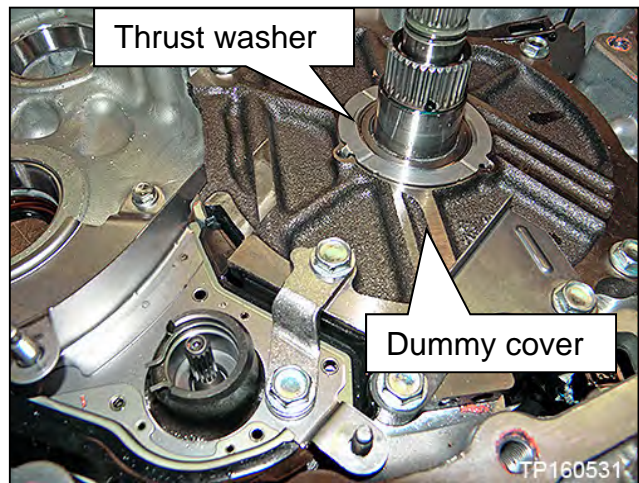

Figure 45
a. "Pump cover" (dummy cover) thrust washer (Figure 45).